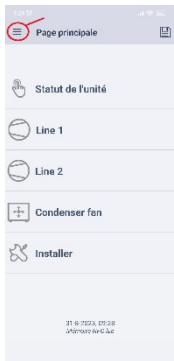

Fig.21
- On the main page open "" (Fig. 21) and then "Parameter List" (Fig. 22)